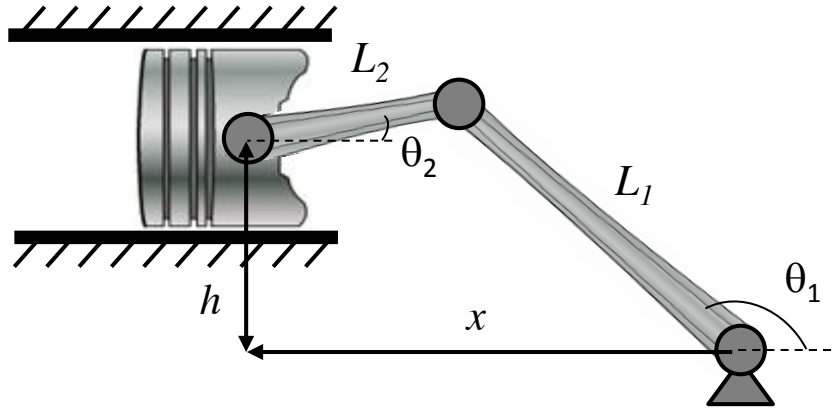

Figure 1: Simple mechanical system.
2. (Nonlinear Systems, Numerical Differentiation, Numerical Integration, 35 pts.) The goal of this problem is to study the behavior of a simple mechanical system. Consider the system shown in Figure 1 (note it's not to scale, for systems such as this, $L_2 > L_1$). The bars are rigid and connected to a piston. The angle θ_1 will be given a function of time, but it will have noise. You will use the input $\theta_1(t)$ to compute the resulting $\theta_2(t)$ and $x(t)$. Then, using this information, you will compute the work done by the piston. Because the input $\theta_1(t)$ has noise, you will solve the problem two different ways: using the data directly and developing a curve fit for $\theta_1(t)$ and then use the curve fit to solve the problem.